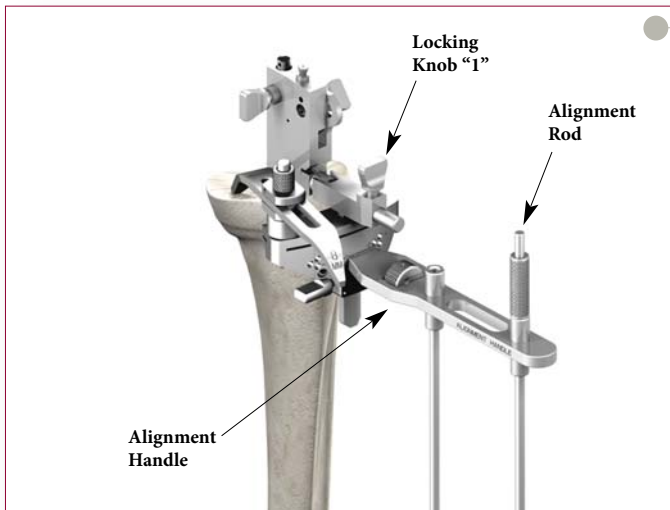

Figure 53
- ▶ If varus/valgus adjustment is needed, Locking Knob “1” is loosened. The mounting bar is pulled toward the surgeon, and the jig is rotated until proper varus/valgus orientation is achieved (Figure 53). Once the alignment rod is centered over the ankle, the Locking Knob is securely tightened.